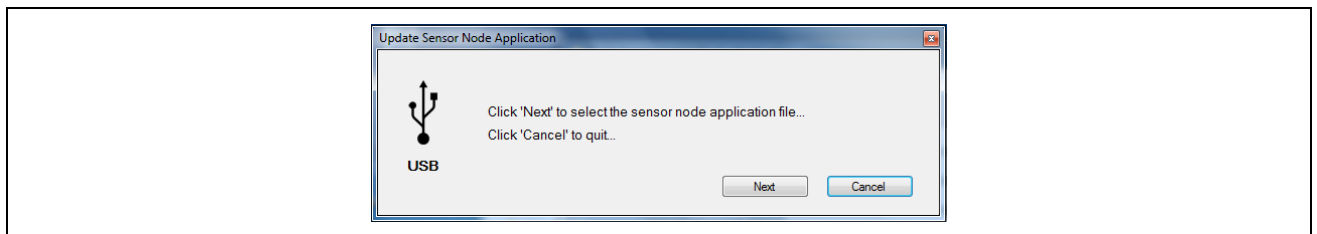

Figure 12 Select sensor node application file dialog
- 9 When the NCT has connected to the sensor node, the dialog seen in Figure 12 will be displayed. Click the Next button to select the sensor node application file to load.